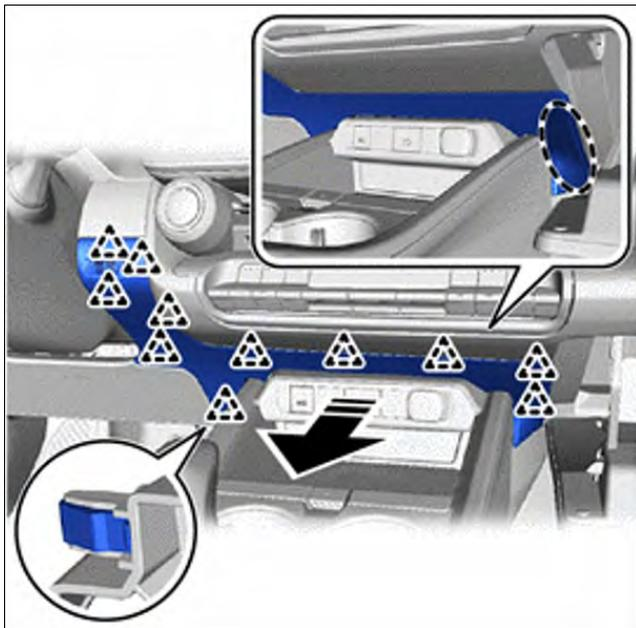

Figure 12
- (b) Without knee airbag, detach 11 clips and remove the lower center instrument panel finish panel, as shown in Figure 12.